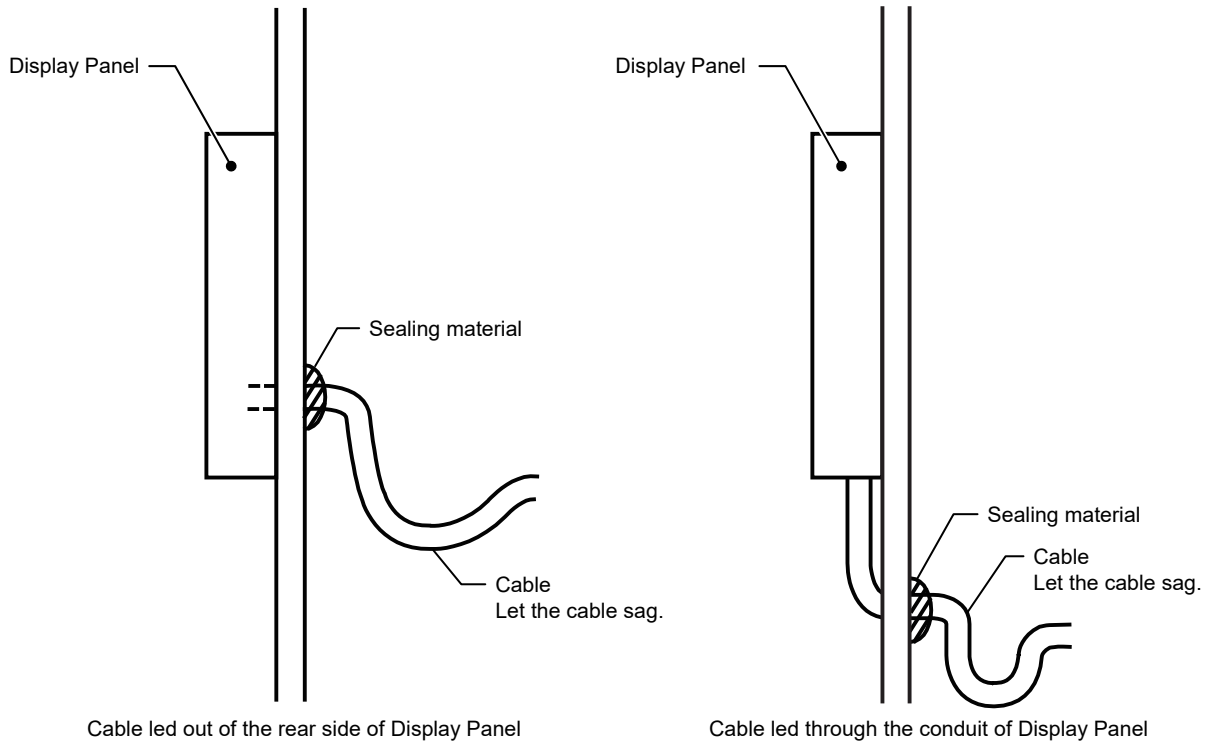

Figure 11. Cable arrangement
- To prevent water from flowing down to Display Panel through the cable, let the cable sag, as Fig. 11 shows.
- When installing Display Panel on an AHU side plate, seal the wiring hole on the AHU side plate, as Fig. 11 shows. Damp or dew condensation may damage the Display Panel, otherwise.